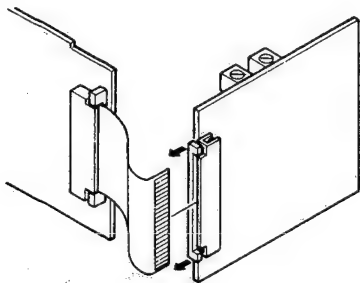

Fig. 1-1-1
- Insert the card fit cable so as to contact the copper leaf on its edge to the connector's conductive surface as shown in Fig. 1-1-1.